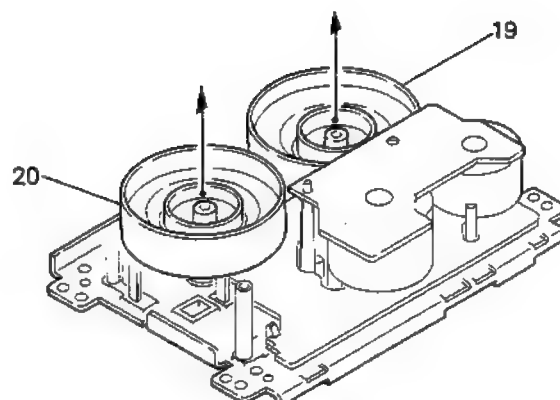

Fig. 7-25
6. Disengage the belt (38) and pull out the flywheels (19, 20). (Fig. 7-25, 7-26)